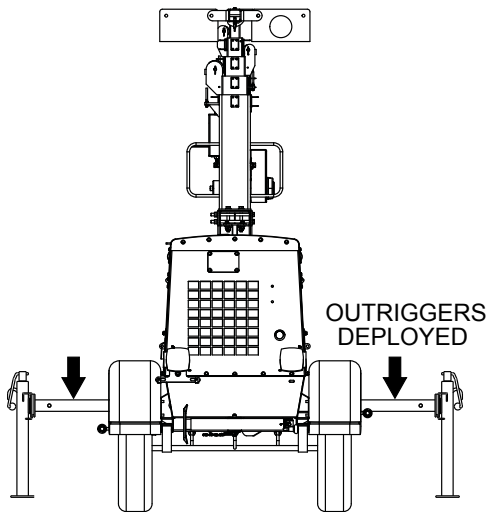

Figure 4. Outriggers Deployed
4. To stabilize light tower and prevent tipping, deploy both outriggers (Figure 4).